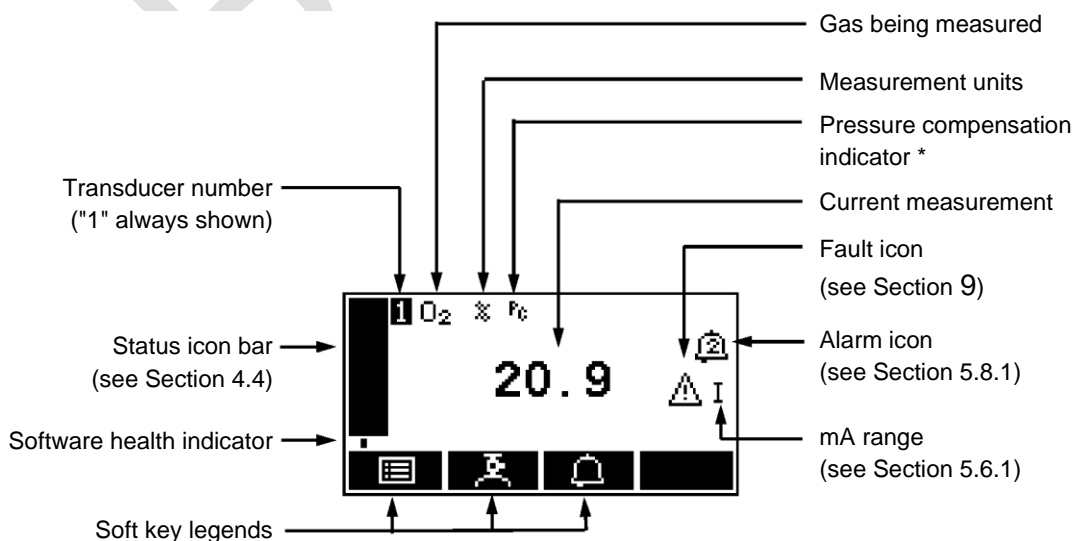

Figure 3 – The measurement screen
The screen will initially display the "System Check" task message. The measurement screen is then displayed, as shown in Figure 3 below. Note that:
The four soft key legends at the bottom of the measurement screen (Figure 3) correspond to the four soft keys on the front of the analyser. (The first, left-most, legend corresponds to the function of soft key 1, the second legend corresponds to the function of soft key 2, and so on.) On the measurement screen, the soft key functions are as follows: